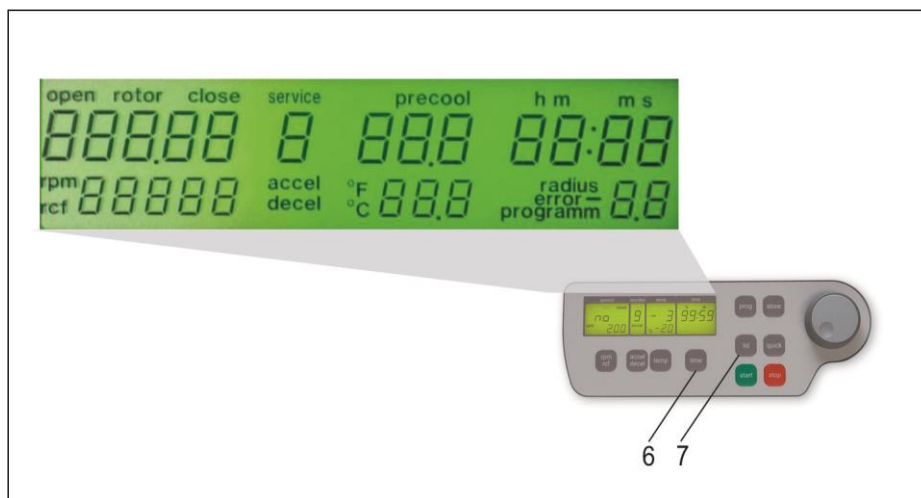

Figure 4
If the centrifuge is still turned off, press the keys "time" (6) and "lid" (7) simultaneously turning on the main switch of the centrifuge. Now release both keys. As a result, a display test is administered for approx. 5 seconds. All possible indications will appear at the same time (see Figure 4).